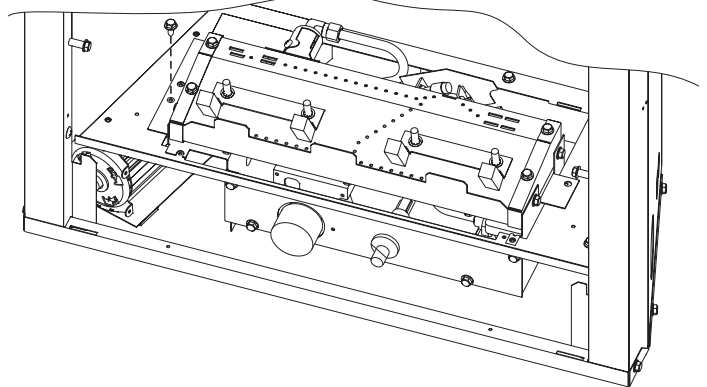

Figure 32
27. Attach burner assembly to blower shield with one 10 x 1/2" screw. See Figure 32.